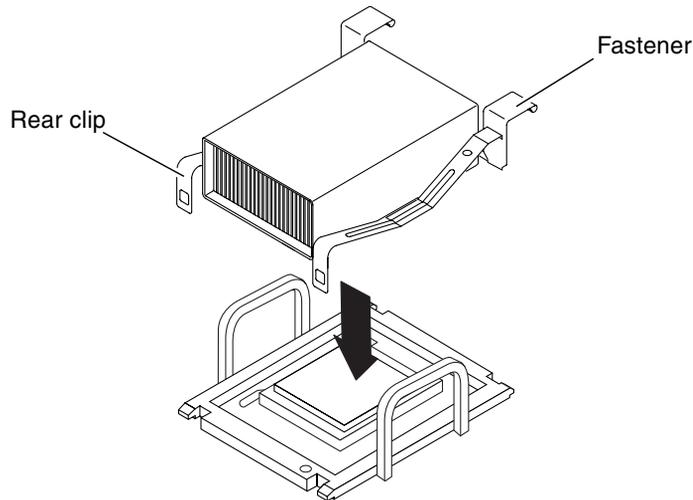

FIGURE 5-23 Replacing the Heat Sink on the CPU Socket
7. Carefully replace the heat sink on the CPU socket, and secure the heat sink by first attaching the rear clips and then pushing down the two front fasteners to the CPU socket (FIGURE 5-23).